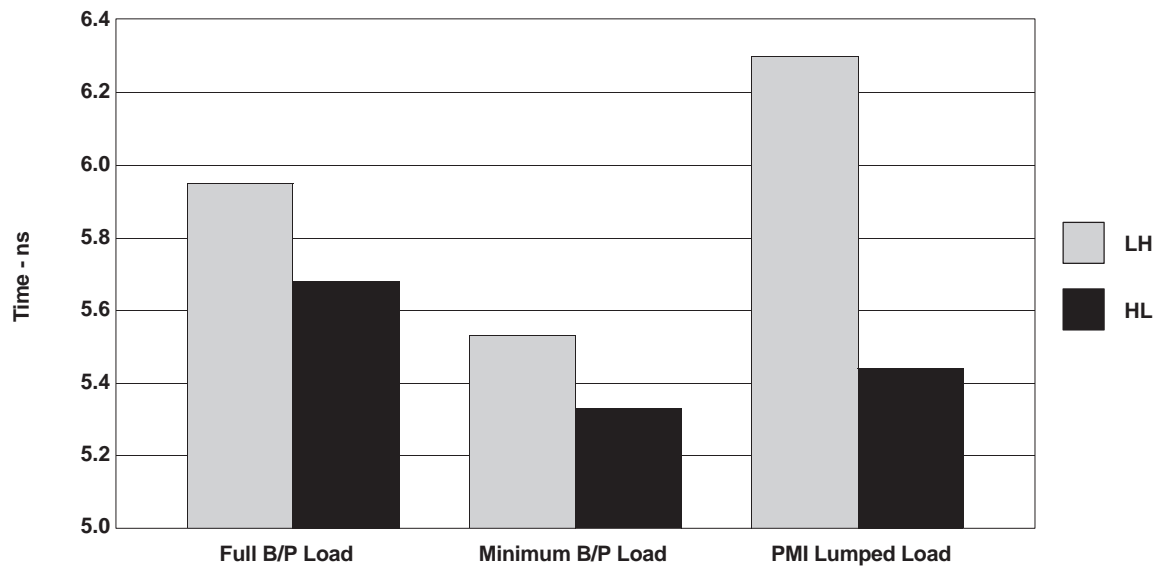

Figure 5.
In general, the rise- and fall-time distribution is shown in Figure 5. Since VME devices were designed for use into distributed loads like the VME64x backplane (B/P), there are significant differences between low-to-high (LH) and high-to-low (HL) values in the lumped load shown in the PMI (see Figure 1 and Figure 2).